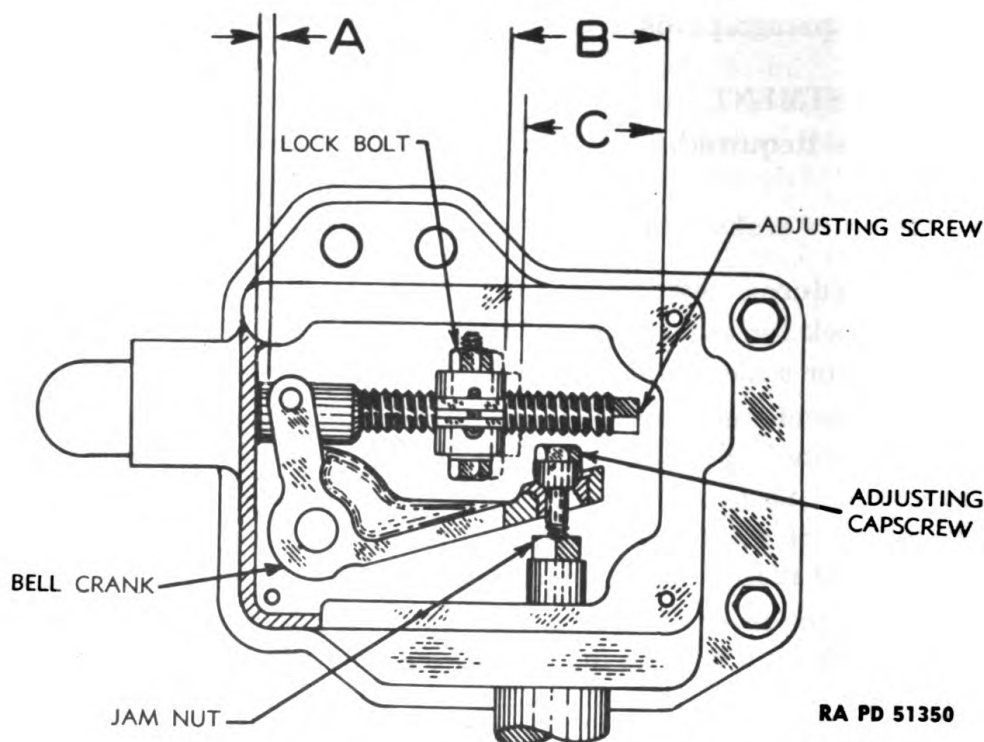

Figure 146 — Steering Clutch Adjustments
Install gasket and steering clutch cover in position on each compartment. See that ball end of throw-out adjusting screw enters hollow of thrust pin on each cover (fig. 146). Install rear fender angle brackets in place on covers (fig. 109). Install the six $\frac{1}{2}$ - by $1\frac{1}{2}$ -inch bolts with lock washers through angles and rear fenders, but do not tighten. Install the six $\frac{1}{2}$ - by $1\frac{3}{4}$ -inch cap screws with lock washers holding fender brackets to clutch covers ($\frac{3}{4}$ -in wrench). Install the eight $\frac{1}{2}$ - by $1\frac{1}{2}$ -inch cap screws with lock washers holding clutch covers to transmission case ($\frac{3}{4}$ -in. wrench). Tighten all bolts and cap screws on covers and brackets (two $\frac{3}{4}$ -in. wrenches). Hook return spring (fig. 111) onto dowel in case above each throw-out fork (pliers). Install brake hole covers and gaskets (fig. 115) with two $\frac{1}{2}$ - by $1\frac{1}{8}$ -inch cap screws with lock washers ($\frac{3}{4}$ -in. wrench).
b. Procedure (refer to fig. 146).
(1) Check for adjustment. (Check each clutch separately.)
b. Procedure (fig. 146).
(1) DISASSEMBLE STEERING LEVER ASSEMBLY.
(2) ASSEMBLE STEERING CLUTCH COVER (fig. 146).